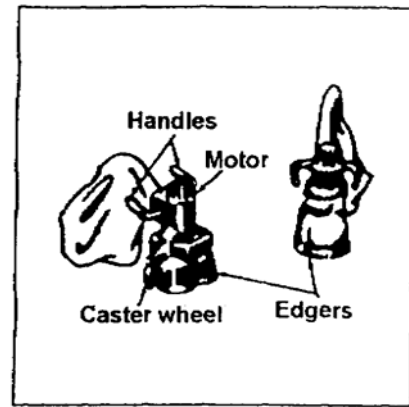

Figure 3-17. Floor edger
(5) Floor edger. The floor edger (Figure 3-17) is very similar to the portable disc sander; in fact, their abrasive discs are interchangeable. The floor edger is designed to sand close to walls and in corners, thus eliminating much hand sanding. Clean the edger by blowing compressed air through the motor occasionally.